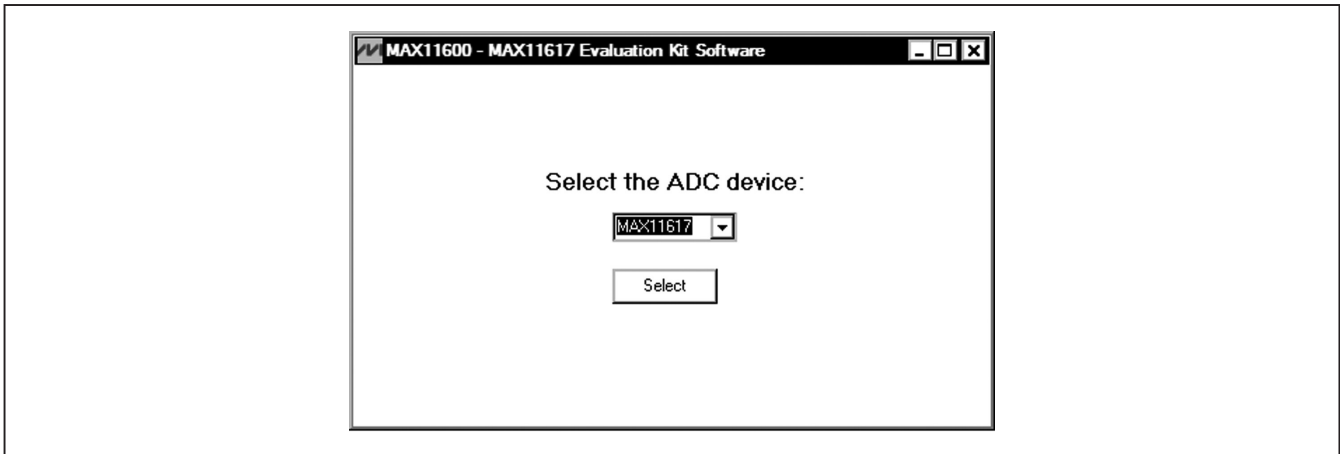
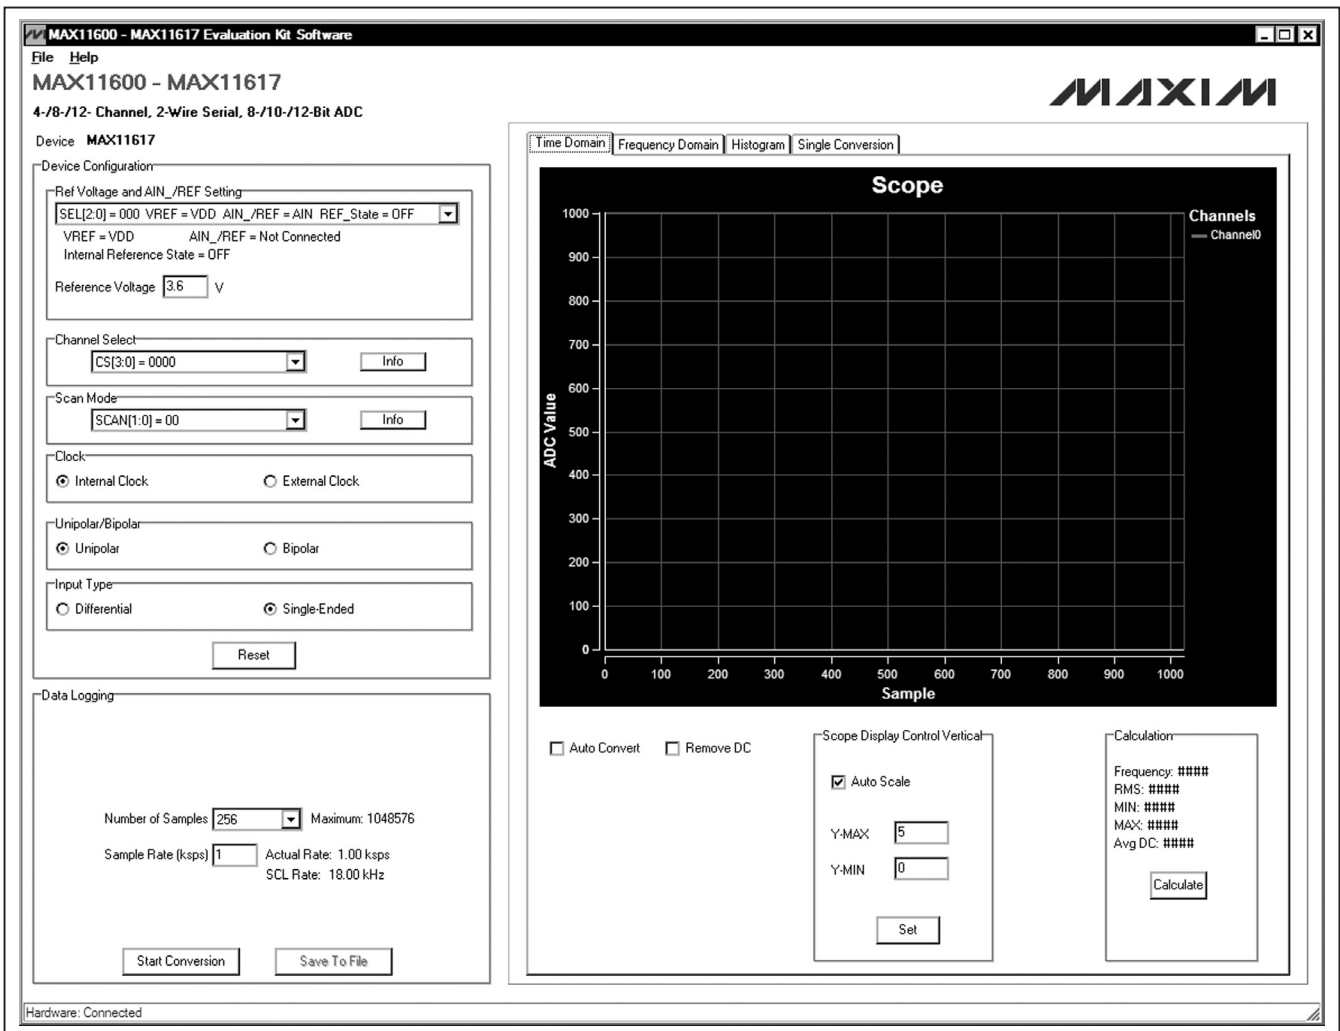

Figure 1. MAX11600-MAX11617 EV System Software Device Selection Window
Figure 2. MAX11600-MAX11617 EV System Software Main Window
- 11) Start the MAX11600–MAX11617 EV system software by opening its icon in the **Start | Programs** menu. The EV system software device-selection window appears, as shown in Figure 1. Select the appropriate device from the **Select the ADC device** drop-down list. The EV system software main window appears, as shown in Figure 2.
The MAX11600–MAX11617 EV system software supports all the MAX11600–MAX11617 ADC devices. When the EV system software starts up, select the appropriate device from the **Select the ADC device** drop-down list shown in Figure 1. Press the **Select** button to bring up the main software window.
The main window of the evaluation software (Figure 2) contains a **Device Configuration** group box, a **Data Logging** group box, and four tab sheets to display the sampled data.
The **ADC Value Display for Single Conversion** group box in the **Single Conversion** tab sheet (Figure 8) displays the **ADC Codes** and the calculated **Voltage** values for a single sample of all the channels that associate with the selected scan mode. Pressing the **Start Conversion** button in the **Data Logging** group box shown in Figure 2 updates the status of the **ADC Value Display for Single Conversion** group box.